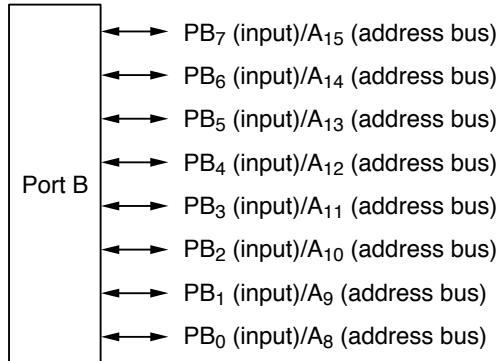

Figure 9-71 Pin Functions in Modes 2 and 4
(2) Pin Functions in Modes 2 and 4: Port B can be used for address output (A_{15} to A_8) or general-purpose input. A pin is used for address output if the corresponding PBDDR bit is set to 1, and for general-purpose input if this bit is cleared to 0. Figure 9-71 shows the pin functions in modes 2 and 4.